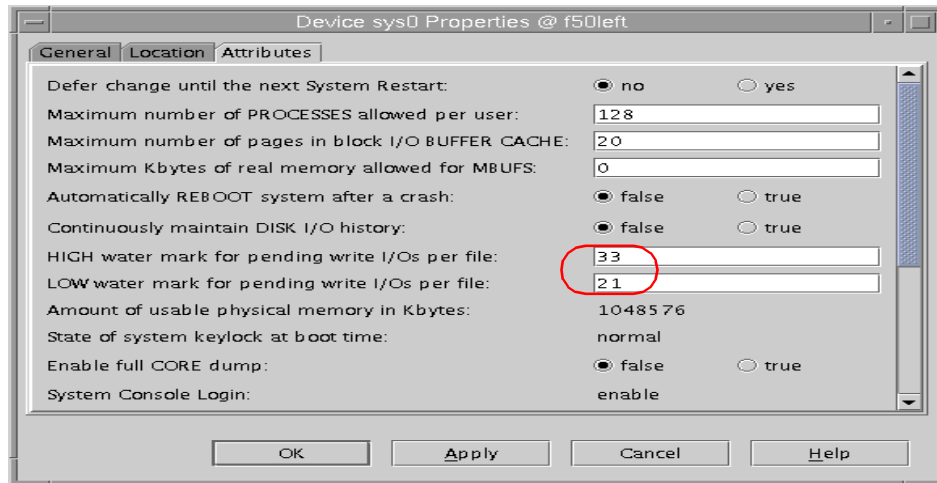

Figure 10-3 Device sys0 properties panel
2. On the device sys0 properties panel, select the Attributes tab. You can change the high and low water mark values in this panel (Figure 10-3).